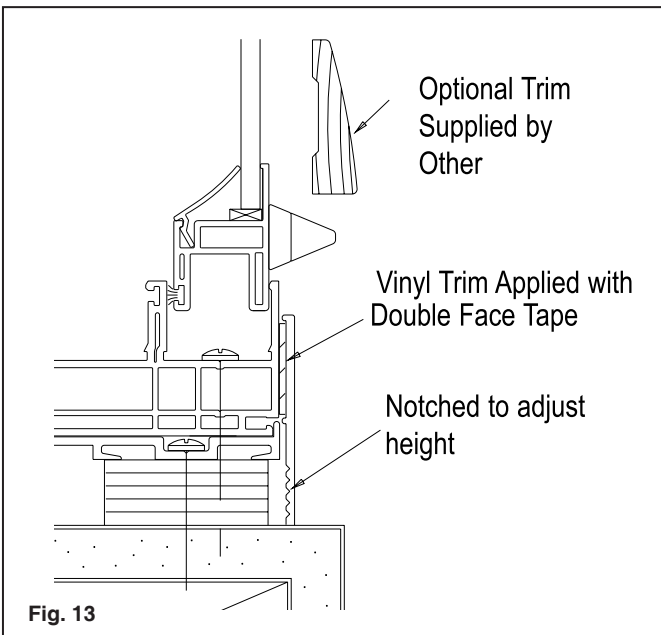

Fig. 13
A. An optional flat vinyl interior trim is available for concealing the gap between the existing frame and the newly installed window. The trim is applied to the new frame with a double face tape. See Fig. 13. Measure and cut trim to fit. It is your option to use this trim or you may want to use a more decorative wood trim.